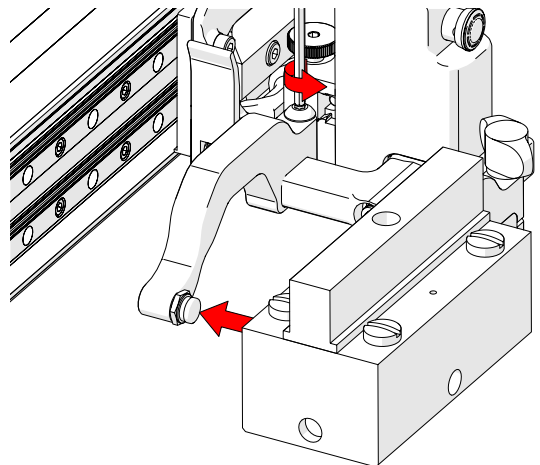

**Fig. 119** - Vertical adjustment
2. The vertical adjustment knob (*Fig. 119*) allows the heavy duty vertical probe holder's height adjustment. This adjustment also controls the probe holders spring tension.